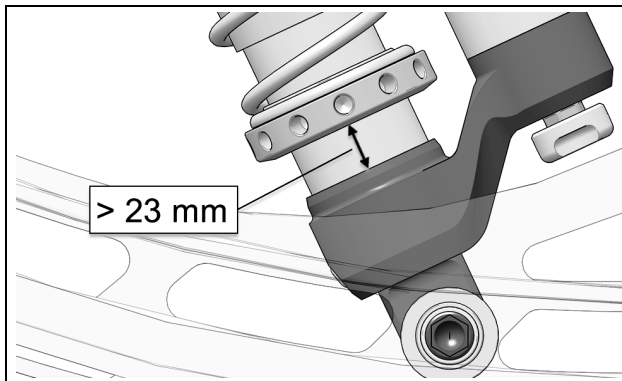

Figure 41
**CAUTION:** Minimum front a-arm shock absorber spring preload should result in a distance of not less than 23mm between preload ring and start of threaded portion of shock body. See Figure 41.